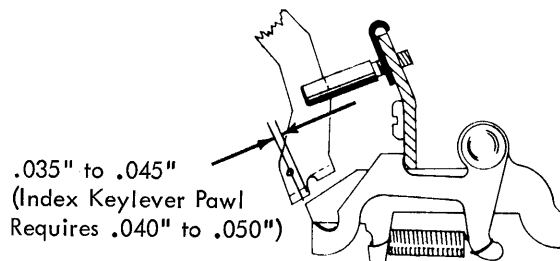

FIGURE 157. Keylever Pawl Overlap Adjustment
1. Keylever Pawl Overlap - Adjust each keylever pawl guide stud so that all the keylever pawls, except the index keylever pawl, overlap their respective interposers by $.035''$ to $.045''$ with both parts at rest (Fig. 157). The index keylever pawl guide should be adjusted for $.040''$ to $.050''$ overlap. The overlap insures proper repeat/non-repeat action.